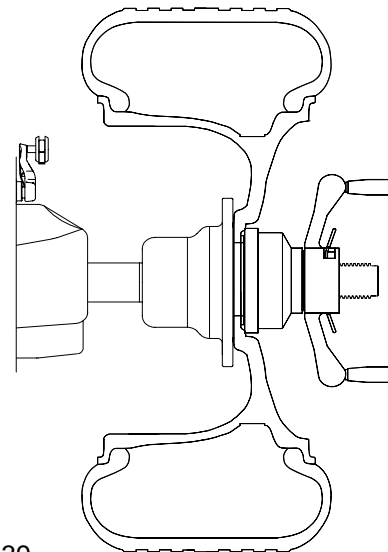

Figure 39
- Mount a balanced wheel/tire to the shaft. See Figure 39.
Lower the wheel guard or press enter to spin the shaft with wheel/tire assembly. See Figure 39